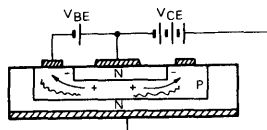

Fig. 7 Pinch-in Effect.
Since it is necessary to shorten the storage time t_{stg} and fall time t_f in switching regulators, it is usual to apply forced reverse bias to the emitter-base junction, as shown in (3) of Fig. 5, so from this standpoint the safe operating area formed by $V_{CEX(SUS)}$ is the most important. In this case, the higher the reverse bias voltage the shorter will be the switching time, however, since the forward bias will tend to collect at the center of the emitter and the collector current will be concentrated at this point, breakdown will be liable to occur through the pinch-in effect shown in Fig. 7. Therefore, it is necessary that the condition of the reverse bias be below that of the measurement of $V_{CEX(SUS)}$ in the data sheets. (conditions: $V_{BE(OFF)} < -5V$, $I_{B2} < I_{B1}$ defined in spec.) Since the assurance of $V_{CEX(SUS)}$ is performed at the high temperature of $T_a = 125^\circ C$, derating according to the junction temperature is not required for the reverse bias safe operating area.